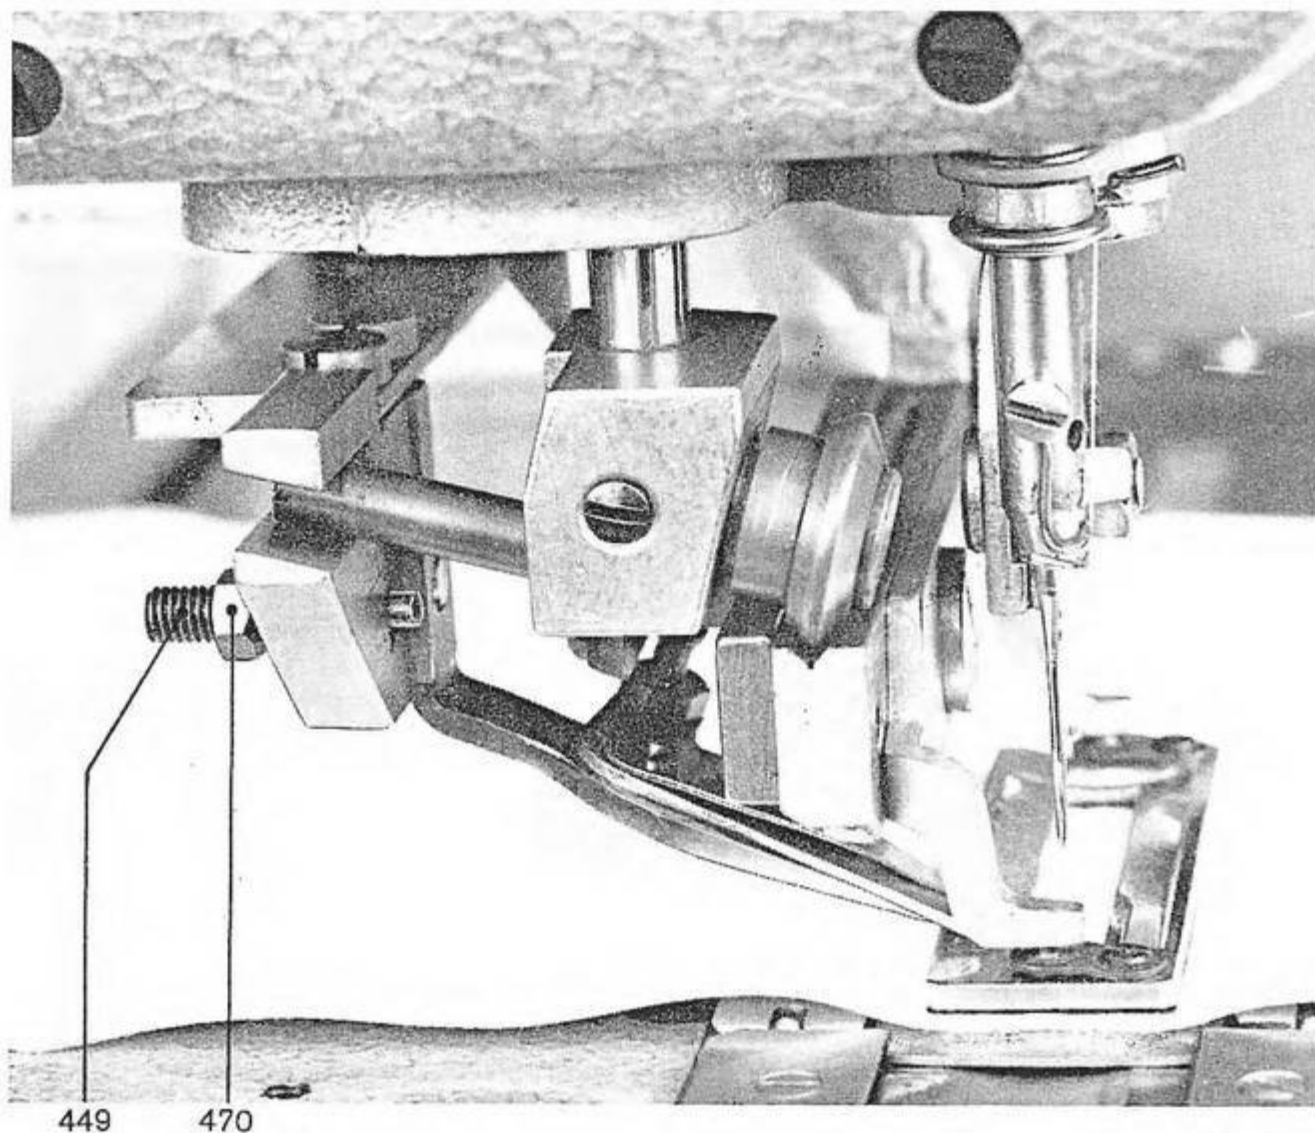

Fig. 116
7. Untighten the counter nut 470 (fig. 116) and loosen completely the setting screw 449.